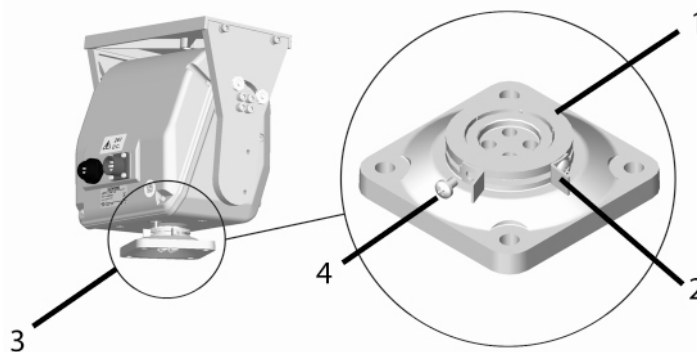

Fig. 15 Setting the Pan end-stops
1. Drive the unit to the required pan stop positions to adjust the strikers (see Fig. 15).